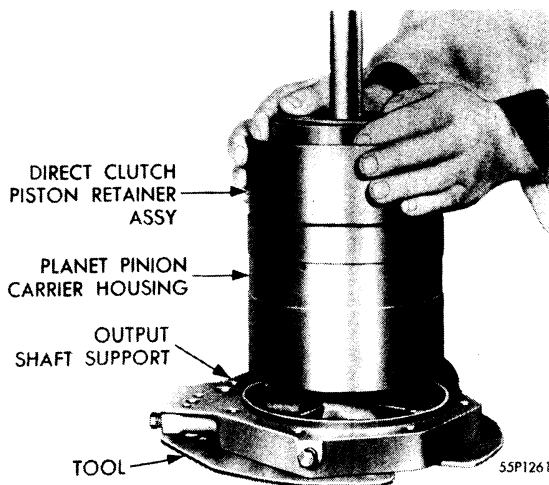

Fig. 111—Installation of Direct Clutch Piston Retainer Assembly
- (1) Coat the kickdown planet pinion carrier thrust washer with MOPAR Lubriplate. Place over kickdown sun gear and on to thrust surface of direct clutch piston retainer assembly.
- (2) Place the direct clutch piston retainer assembly over the input shaft, engaging sun gear with the kickdown planet pinion gears and engaging splines of the input shaft with the direct clutch hub. (Fig. 111.) Make sure kickdown planet pinion carrier thrust washer remains in position.
- (3) Coat the direct clutch piston retainer thrust washer (select fit) with MOPAR Lubriplate and install on torque converter reaction shaft, inside of transmission case. To prevent damage, use care when sliding washer over rings.